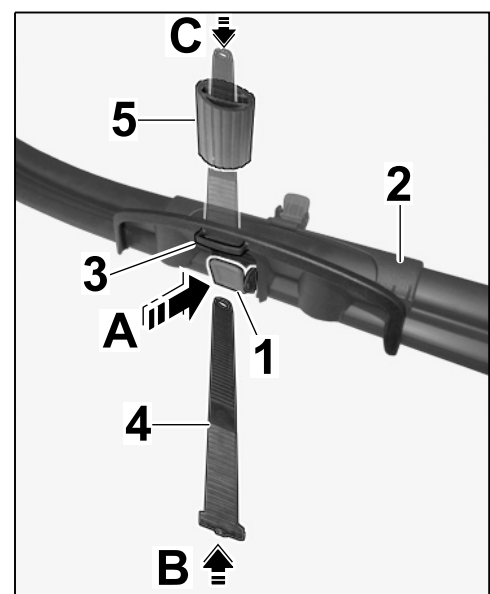

Figure 6
- 1.3.1 Press turnbuckle, on the side with the tab, on the wheel mount (⇒ *Figure 6-A-*).
- 1.3.2 Slide tension strap as far as it will go through the turnbuckle from below (⇒ *Figure 6-B-*).
- 1.3.3 Fit rim protector as far as it will go onto the tension strap (⇒ *Figure 6-C-*)